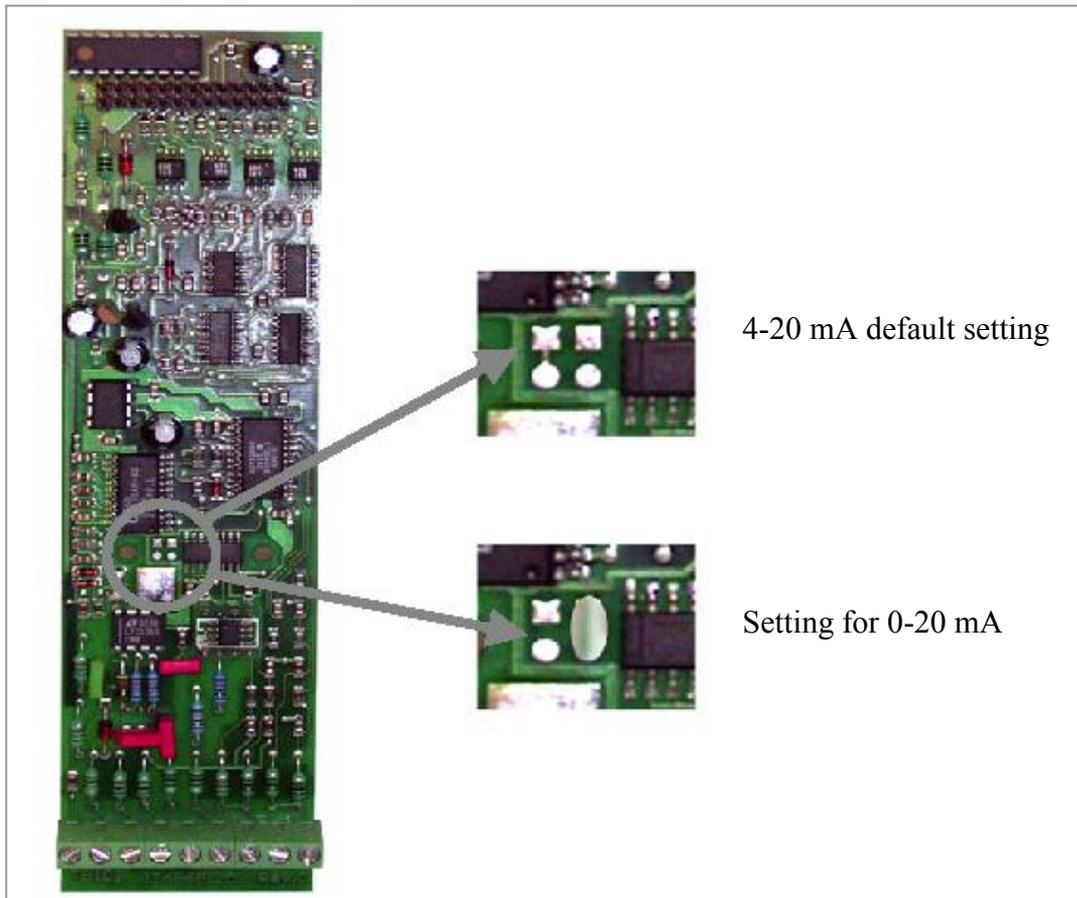

Fig. 11 - Jumper position for 4–20 to 0–20 mA output signal modification
WARNING! Set 0–20 mA or 4–20 mA accordingly. To modify output signal change Jumper JP1-JP2 as shown in Par. 4.4.2.1 – Fig. 11
- Identify Jumper JP1 and JP2 on board (see figure 11);